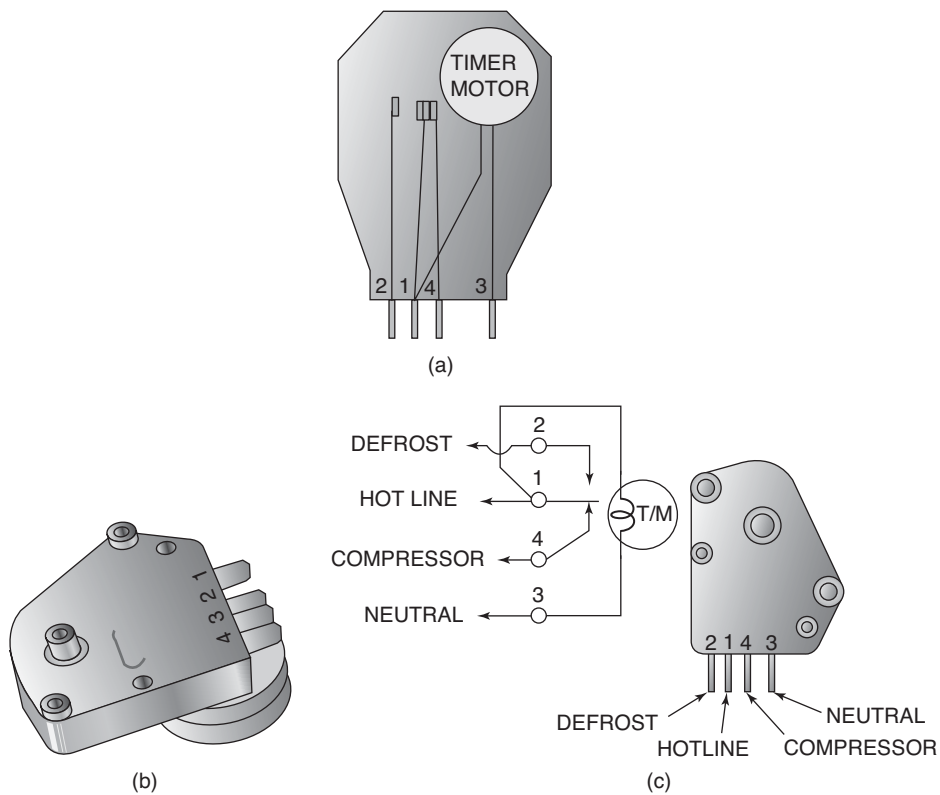

FIGURE 18-21 Defrost timer.
1. A defrost timer (Figure 18-21). It has a time clock inside that moves gears and cams that operate an single pole double throw switch. The switch is in one position for approximately $7\frac{1}{2}$ hours and in the other position for approximately $\frac{1}{2}$ hour. There is a knob that may be rotated manually to advance the timer, causing the switches to operate.